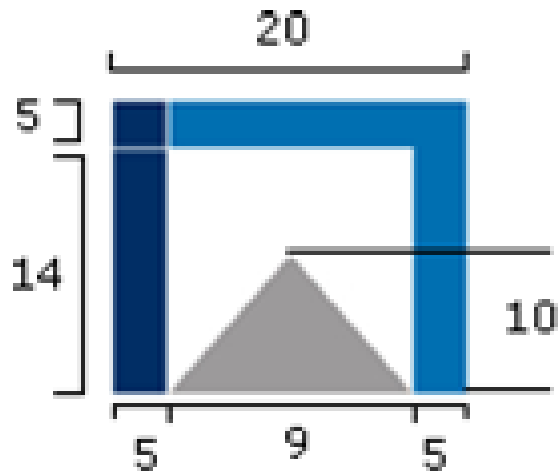

**Fig.6.26:** Shows the finished work part.
*\*the program to run should be enabled (X)*
11. Click on "start" on the main console to start executing the program and get the finished part as shown in Fig. 6.26